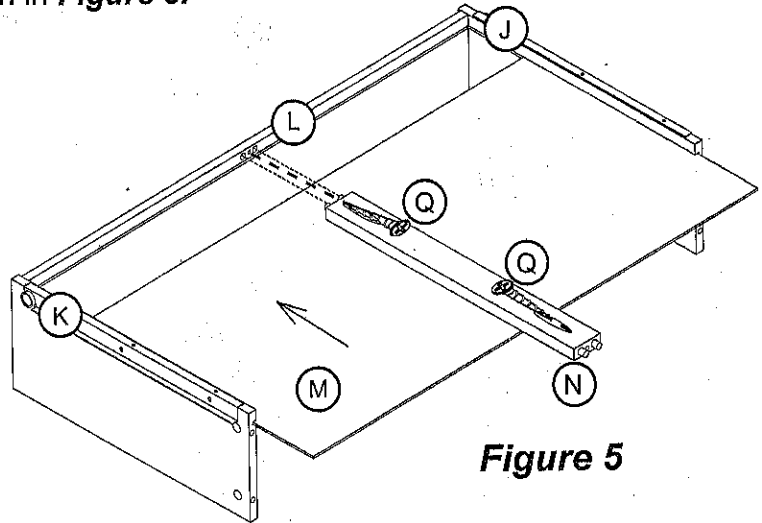

Figure 5
Insert the Drawer Bottom Rail (N) With 4pcs Wood Dowels(T) and 4pcs Wood Screws(Q) into the Drawer Back Panel (L). As shown in **Figure 5**.